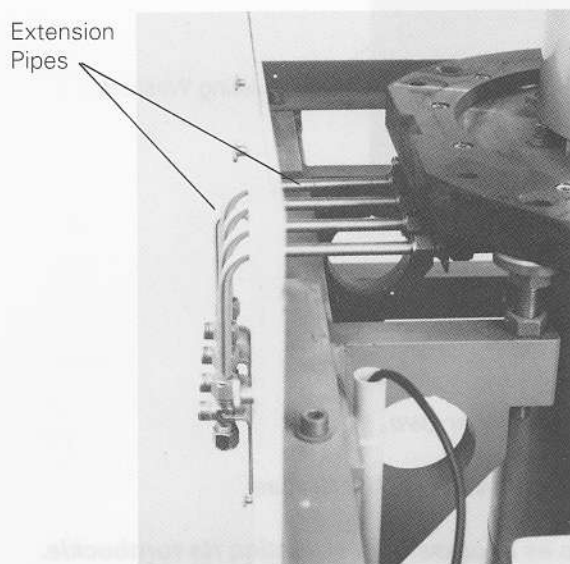

Fig. 29. Fitting the Extension Pipes (customer-connection)
- (d) If required (customer-connection), fit four extension pipes (Fig. 29) to the inlet and outlet connections of the body 1 and body 2 water cooling circuits (fittings are 12 mm, Gyrolok).